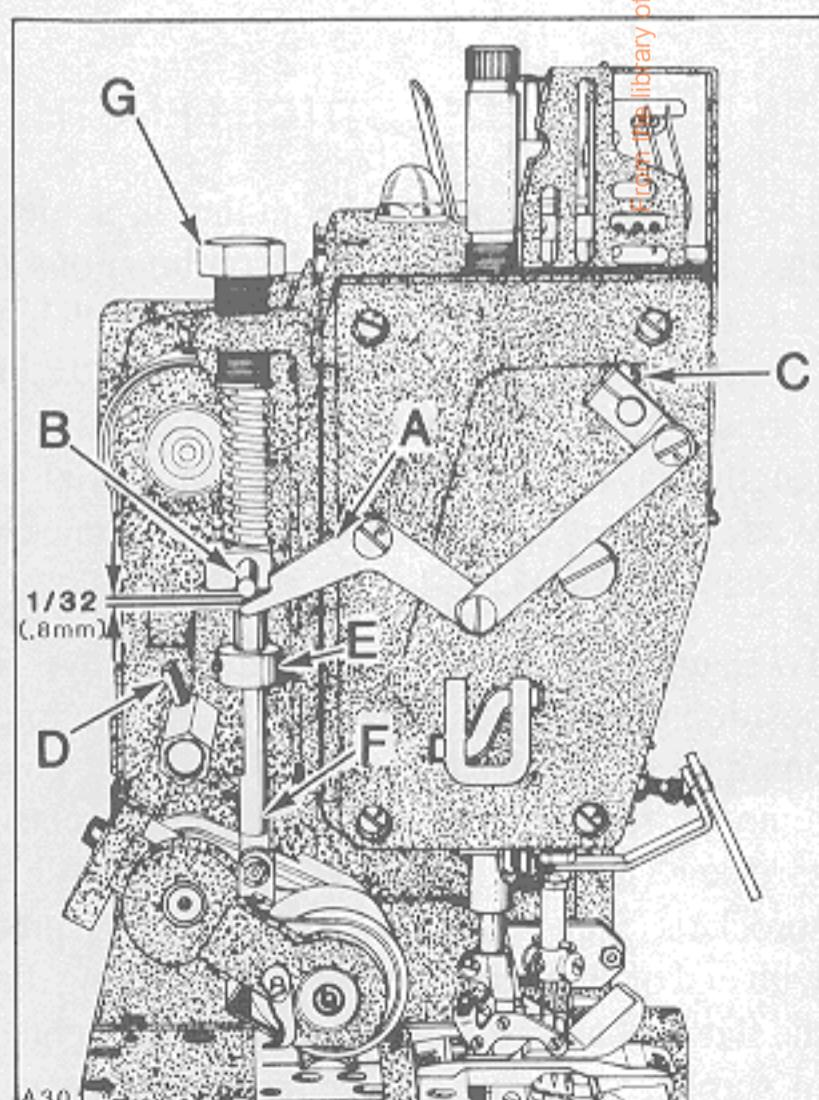

Fig.35
With puller in the operating position and presser foot resting on throat plate there should be $1/32$ inch (.8mm) between puller lifter link (A, Fig. 35) and puller lifting pin (B). If adjustment is required loosen screw (C) in upper presser foot lifting shaft connection and raise or lower link (A) as required. Tighten connection screw (C) securely..